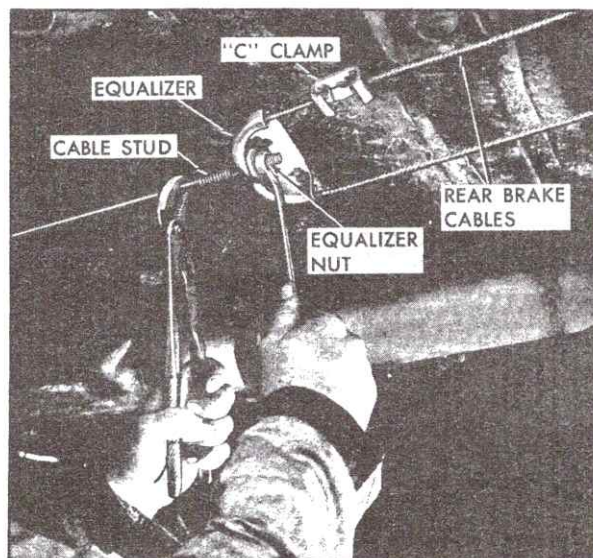

Fig. 5-4 Parking Brake Adjustment
4. Hold brake cable stud from turning, and tighten equalizer nut, Fig. 5-4, until light drag is felt on either wheel (going forward). After each turn of equalizer nut, check to see if either wheel begins to drag.